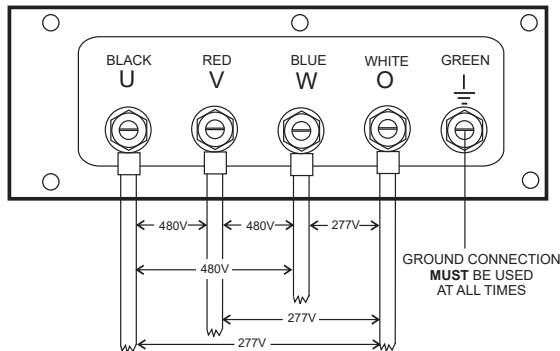

Figure 21. UVWO Terminal Lugs
2. Connect the load wires to the **UVWO terminal lugs** as shown in Figure 21.